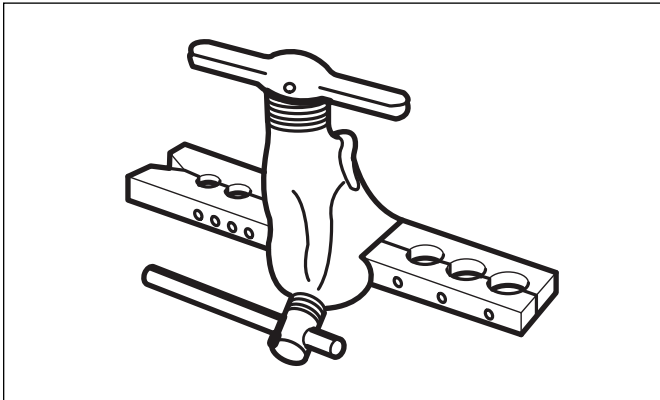

Figure 27
3. Make sure that the pipe is cut at a perfect 90° angle. Refer to Fig.27 for cut examples.